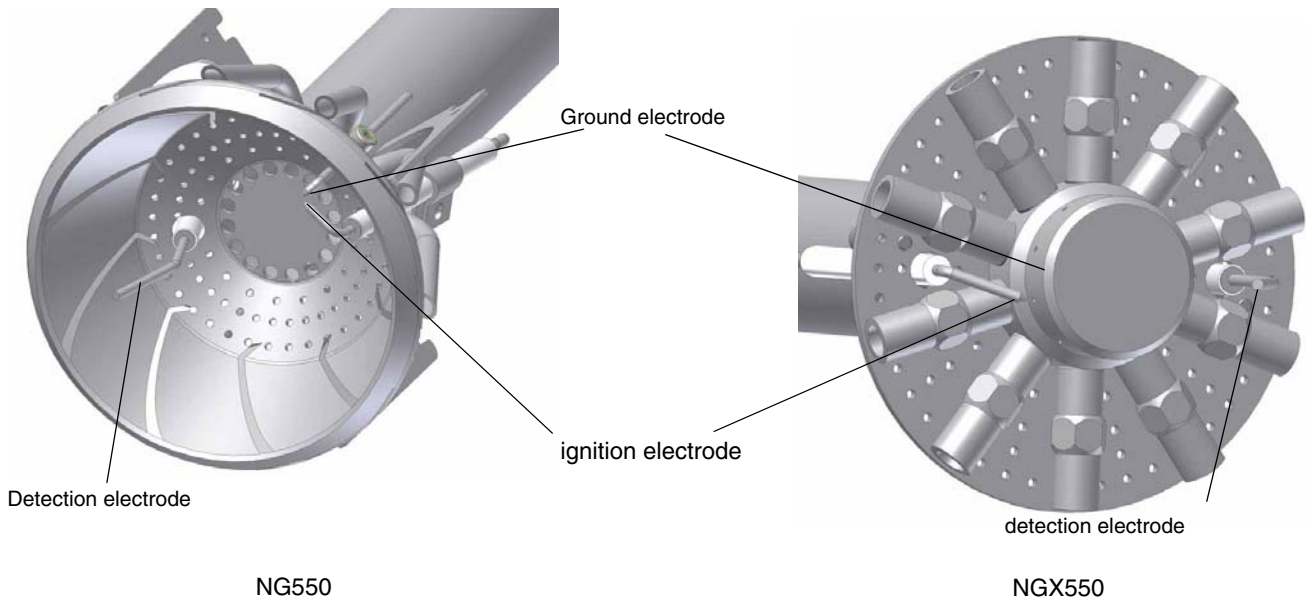
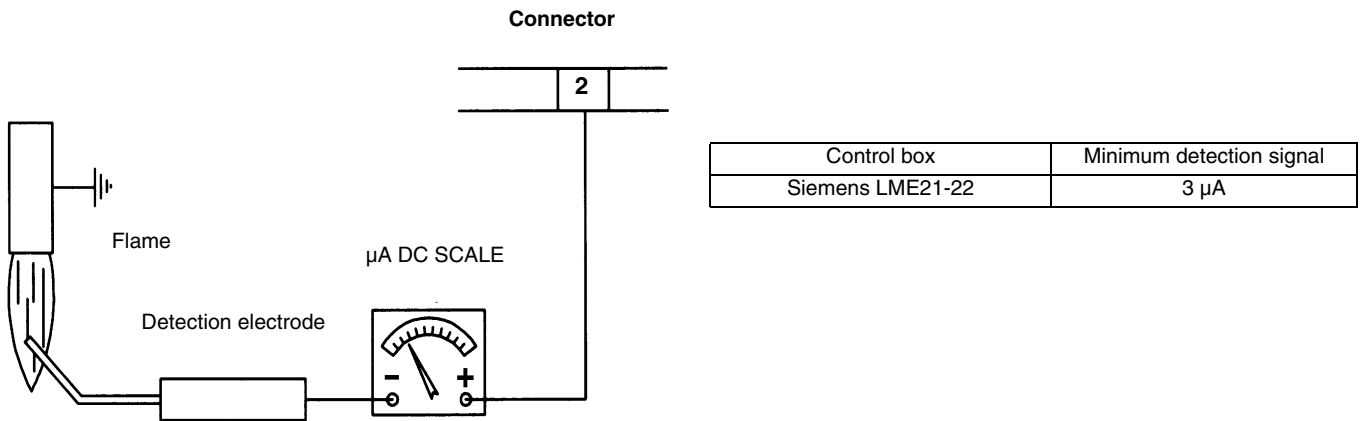

Fig. 46
Fig. 47
- Check the ignition and detection electrodes, clean and adjust if necessary (see Fig. 46). In case of doubt, check the detection current according to the schemes in Fig. 47.
ATTENTION: avoid the ignition and detection electrodes to contact metallic parts (blast tube, head, etc.), otherwise the boiler's operation would be compromised. Check the electrodes position after any intervention on the combustion head. The gap between the ignition electrode and the ground is $4 \pm 5 \text{ mm}$ (see Fig. 46).
If the burner locks out, execute the following inspections. To measure the detection signals refer to the diagrams in Fig. 47 . If the signal is less than the value shown, check the position of the detection electrode, the electrical contacts and if necessary replace the detection electrode (see “Electrodes position setting” on page 33).